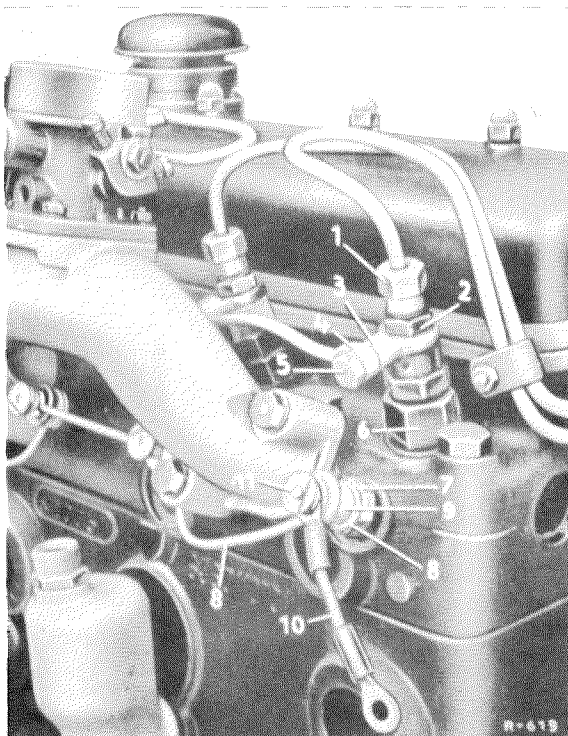

Figure 15-31/1
1. Loosen the connection cable (10) from the 1st or 4th glow plug by unscrewing the knurled nut (11) (see Figure 15-31/1).
2. Also unscrew the other knurled nuts, remove the connection insulators (9) and the bus rails (8) (see Figure 15-31/1).